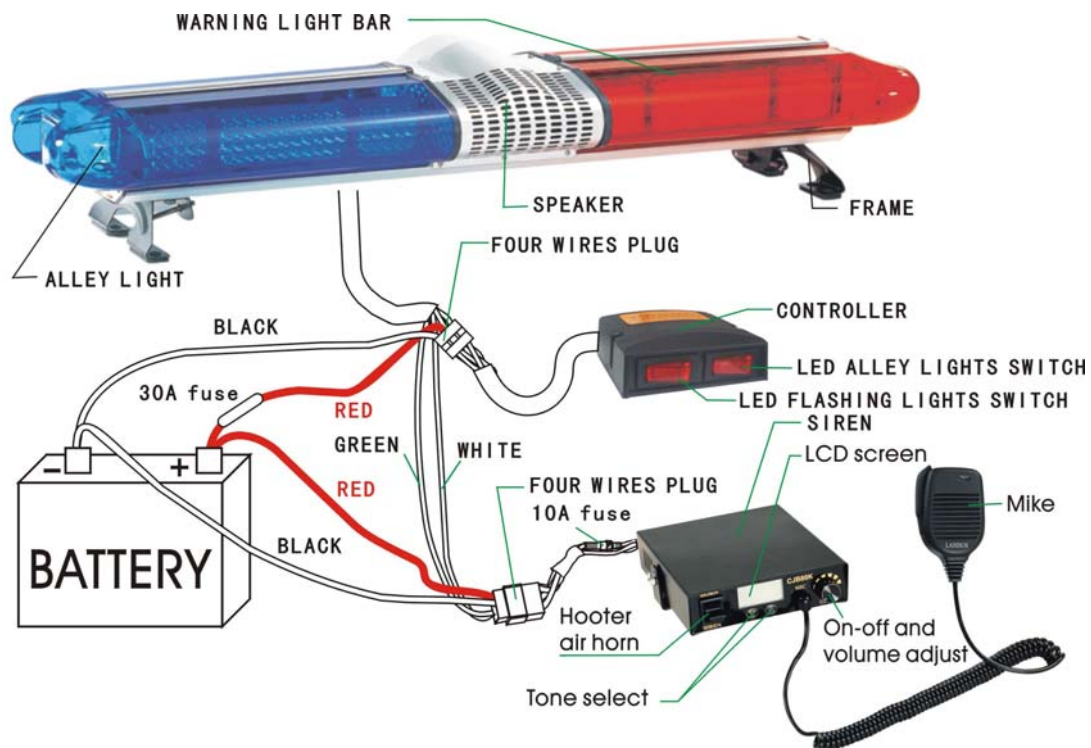

Fig.2. Wiring
- 3.4. After installed, the two red wires and the two black wires should connected to the battery (red to +, black to -), and firm plug into the siren host and controller. (Re. Figure 2).